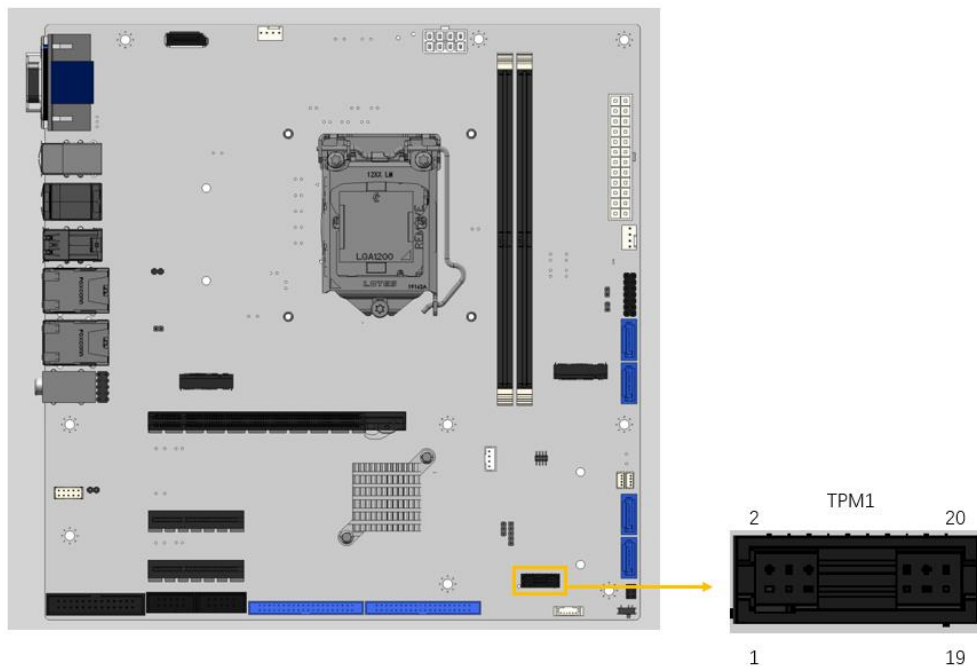

Figure 4-18: Trusted Platform Module Connector Location
- CN Location:** See **Figure 4-18**